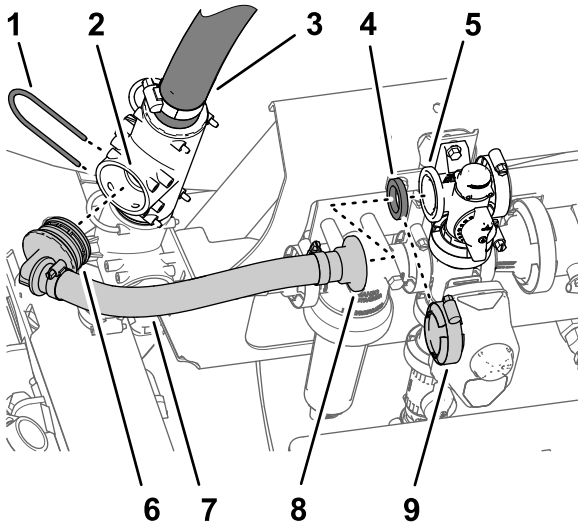

Figure 8
1. Align the 90° barbed fitting of the new agitation bypass-hose assembly with the open port in the upper T-fitting and insert the 90° fitting until it is seated in the T-fitting (Figure 8).
2. Secure the 90° barbed fitting to the T-fitting with the retainer (Figure 8) that you removed in step 2 of Removing the Hoses \(page 4\).
3. Align the straight flange fitting of the new agitation bypass-hose assembly and the gasket with the flange of the bypass valve (Figure 8).
4. Secure the straight flange fitting and gasket to the bypass valve with the flange clamp (Figure 8) that you removed in step 2 of Removing the Hoses \(page 4\).